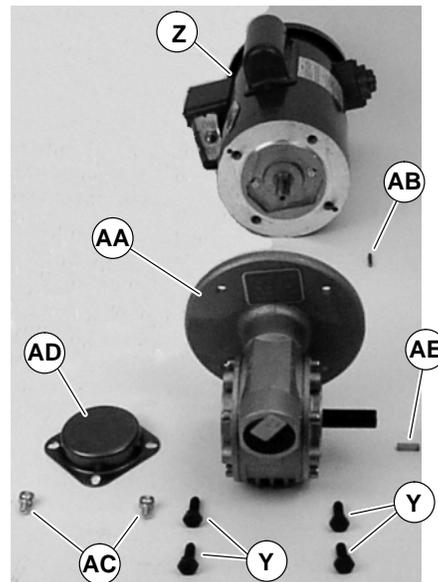

Figure 16
5. Remove four screws (Y of Figure 16). Detach motor (Z) from gear reducer (AA). Retain motor output shaft key (AB).
- With key (J of Figure 16) in keyway, slide motor (Z) and gear reducer (AA) together. Install screws (Y) and tighten.